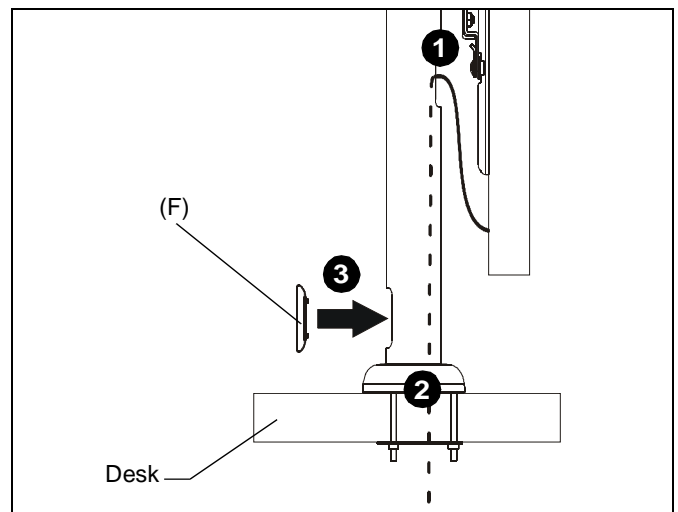

Figure 10
1. Route cables from display into upper hole on pole portion of table stand. (See Figure 10)
2. Route cables down the pole and through hole drilled in desk during desk installation. (See Figure 10)
3. Install cable port cover (F) into lower hole on pole portion of table stand. (See Figure 10)